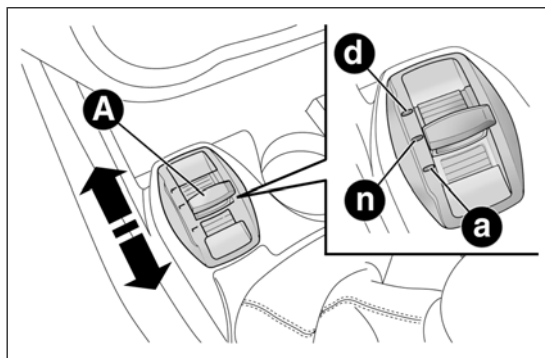
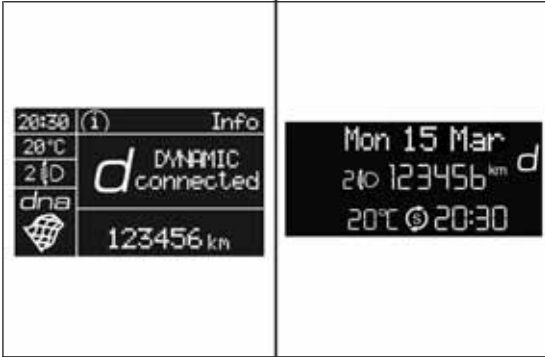
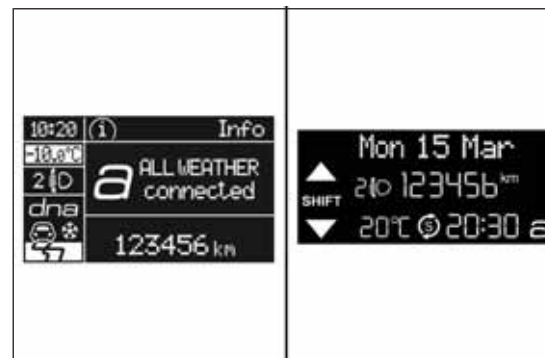

fig. 72
fig. 75
fig. 77
This device allows, using lever A fig. 72 (on the central tunnel), three car response modes to be selected according to driving style and road conditions:
Move the lever A fig. 72 upwards (next to the letter “d”) and hold in this position for 0.5 seconds until the corresponding LED lights up or the word “Dynamic” appears on the display (see fig. 75).
Move lever A fig. 72 downwards (to the letter "a") and hold in this position for 0.5 seconds until the corresponding LED lights up or the word "All Weather" appears on the display (see fig. 77).
To deactivate "All Weather" mode and return to "Natural", carry out the same procedure described for "Dynamic" mode, but move lever A fig. 72 to "a".
- ❑ In the event of system failure or a fault with lever A fig. 72, no driving modes can be selected. The display will show a warning message.